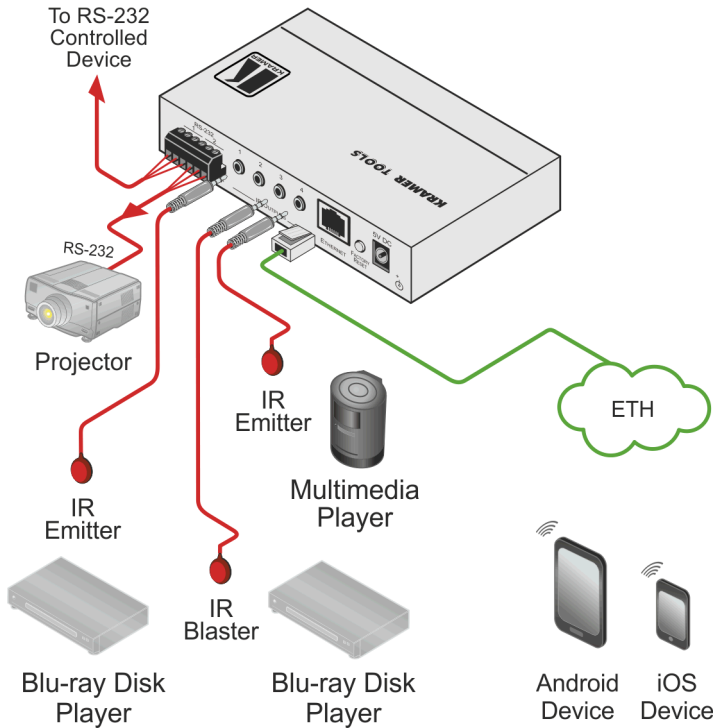

Figure 6: Connecting the FC-26 Ethernet Controller
To connect the FC-26 as illustrated in the example in Figure 6:
4. If the **FC-26** is not supplied with power by a PoE provider, connect the device to the power adapter and connect the power adapter to the mains electricity (not shown in Figure 6).